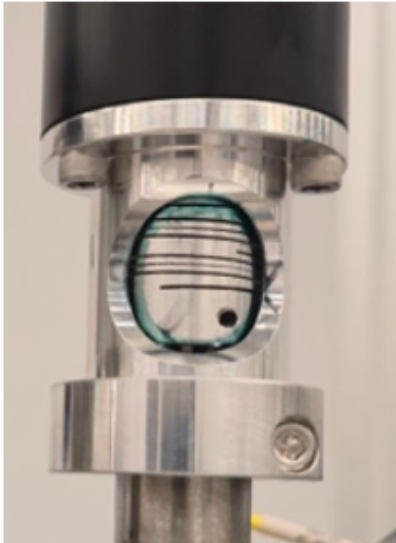

Figure 3: Green circle in collet.
3. Spin propeller collet to line up with the **green** circle (see figure 3)